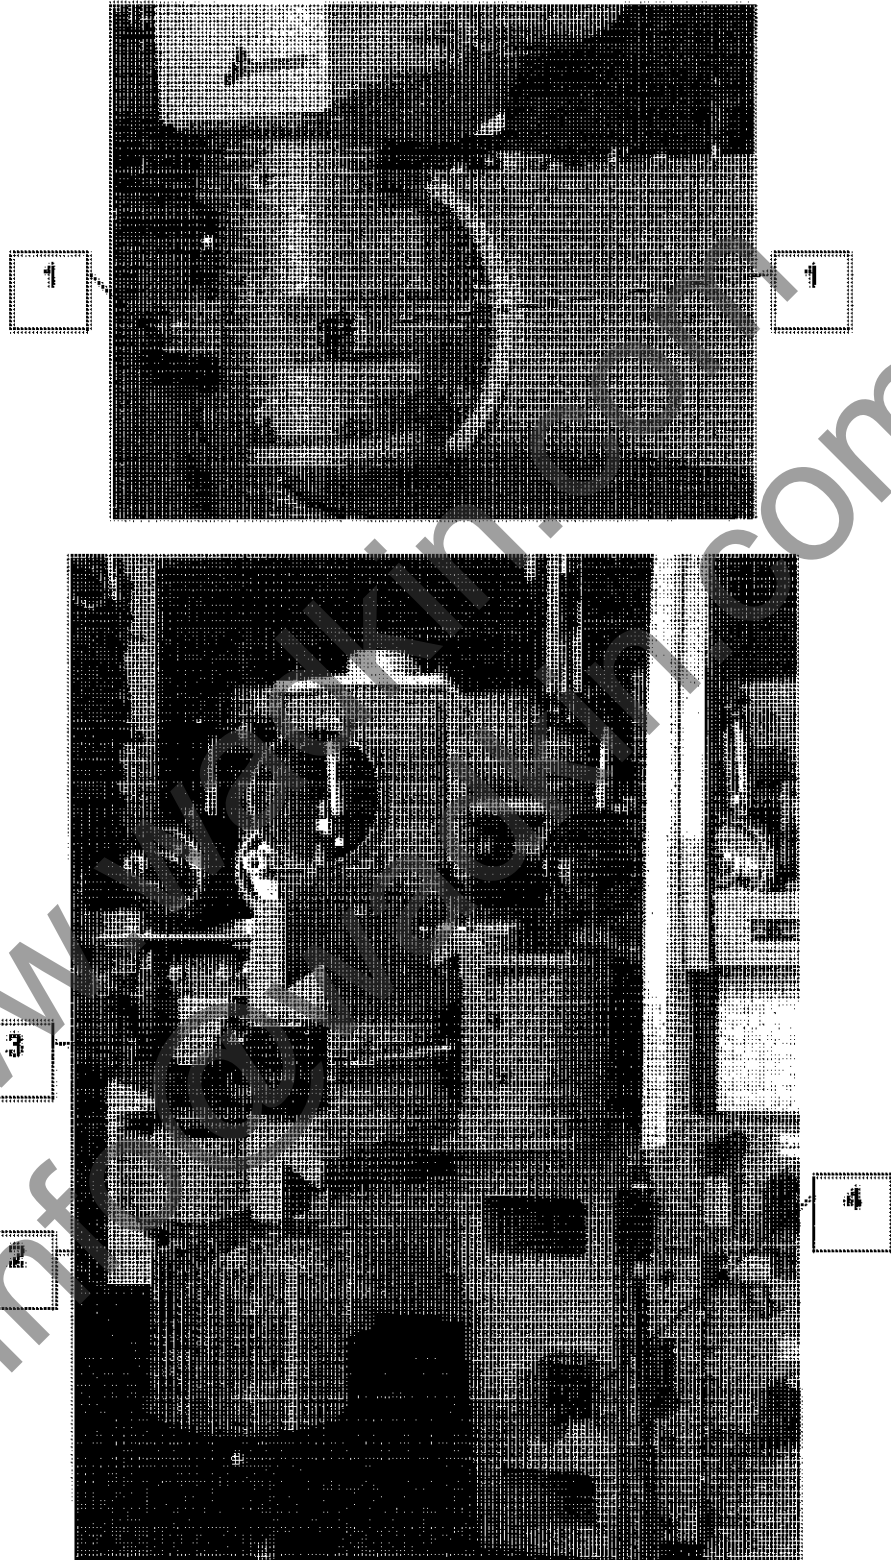

Figure 8.1.7
- 5 Release the two locking bolts (1) (Figure 8.1.7) and cant the spindle to the horizontal position using a crank handle on shaft (2).
- 6 Lock bolts (1).
- 7 Adjust the vertical and horizontal position of the cutter block in relation to the fence side and the bedplate respectively by adjusting shafts (3) and (4) with the crank handle.
- 2 Release the two locking bolts (1) (Figure 8.1.7) and cant the spindle to the vertical position using a crank handle on shaft (2).
- 3 Lock bolts (1)
- 7 Adjust the vertical and horizontal position of the cutter block in relation to the timber size by adjusting shafts (3) and (4) with the crank handle.
- 3 Release the two locking bolts (1) (Figure 8.1.7) and cant the spindle to the vertical position using a crank handle on shaft (2).
- 4 Lock bolts (1)
- 6 Adjust the vertical and horizontal position of the cutter block in relation to the fence side by adjusting shafts (3) and (4) with the crank handle